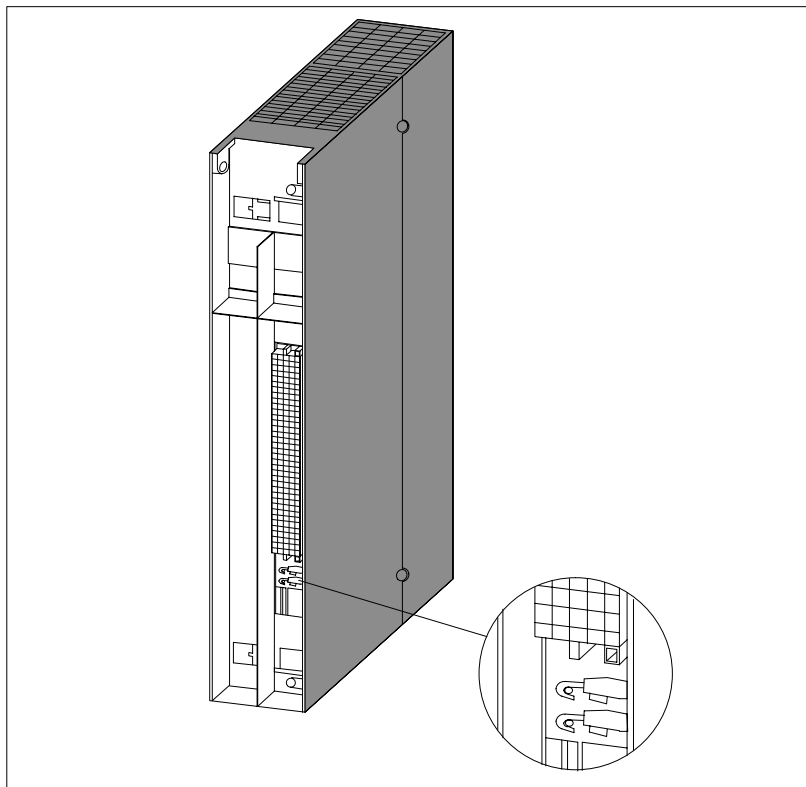

Bild 1-1 Location of the wire jumpers on the adapter casing
1. Verify that the wire jumpers at the rear of the adapter casing are closed (state upon delivery). These jumpers are used for test purposes and must always be closed. Fig. 1-1 shows the locations of these jumpers.